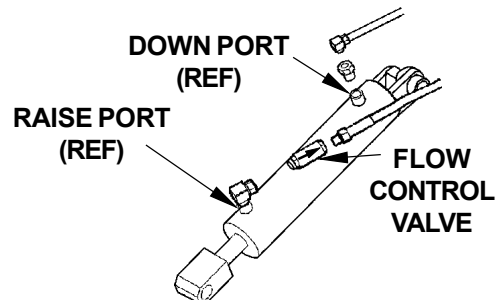

FIG. 42-3
7. Check if Flow Control Valve (FIG. 42-3) is pointing to the direction of restricted fluid flow (back toward pump). If required, remove Flow Control Valve and install it correctly (FIG. 42-3).